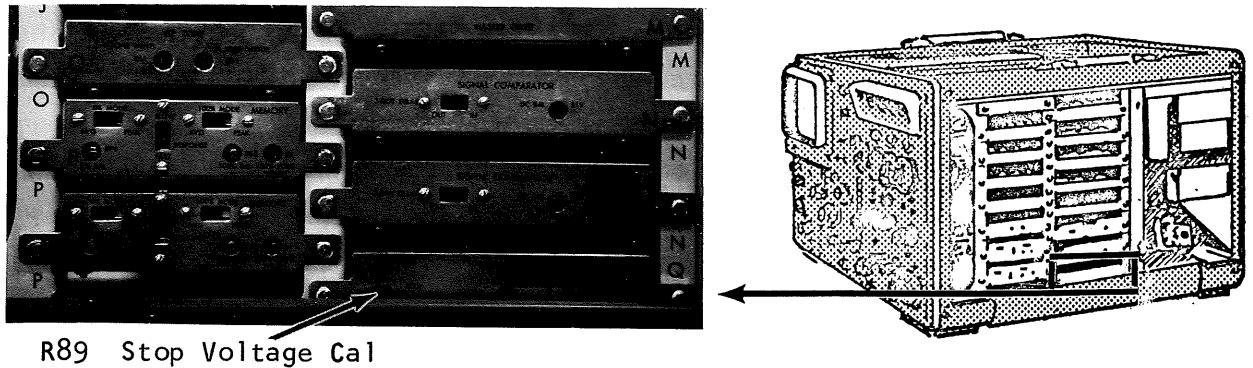
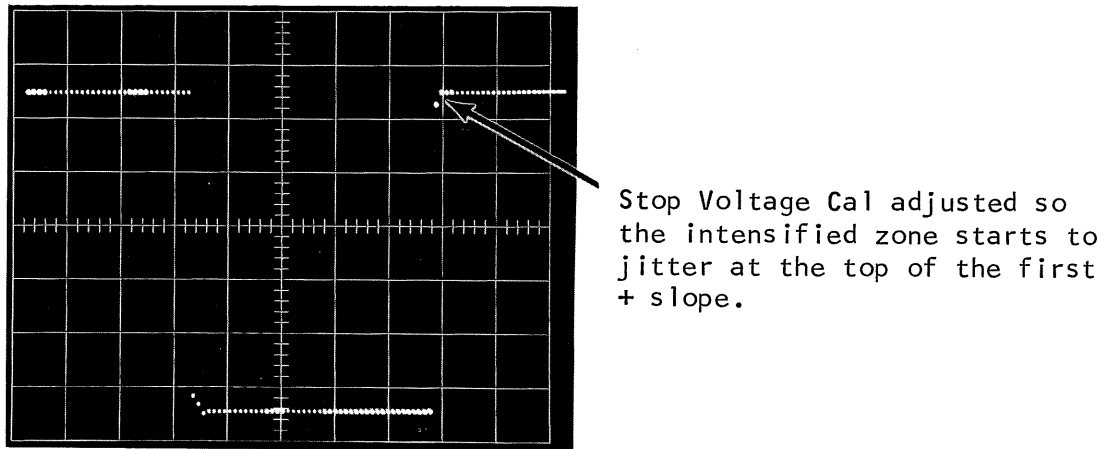

Figure 3-32
Figure 3-33
1. Set the TIMING STOP to A TRACE. Adjust the Stop Voltage Cal, R87 - See Figure 3-32, so the intensified zone just starts to jitter at the top of the first + slope. See Figure 3-33.